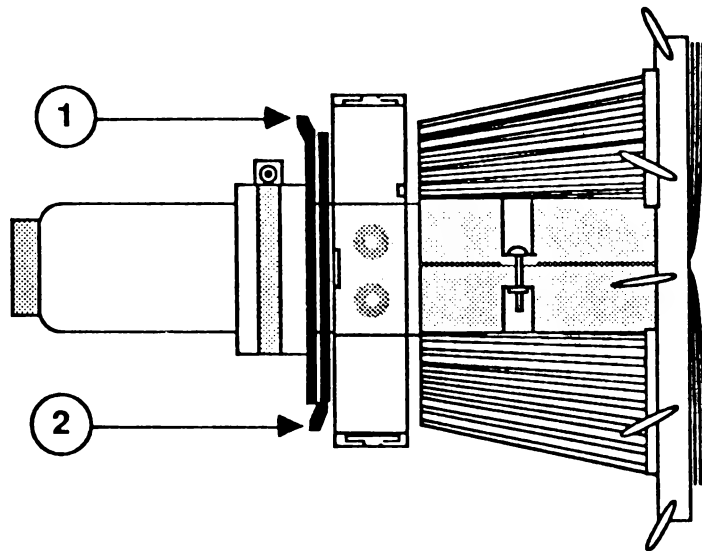

FIGURE 5
1. If using the Apple II Peripherals Diskette, select "Test #1" (Dot Pattern) from the menu. If using the ROM card, select Video Pattern (V).
2. Locate the two front and rear ring magnets on the rear part of the yoke (see Figure 5).
3. The ring that is closest to the rear of the yoke (see Figure 5, #2) is the coarse adjustment. Rotate this ring and observe the effect it has on the centering of the image. Position it so that the image is as close to center as possible.
4. Now rotate the front ring (see Figure 5, #3). This is the fine adjustment. Rotate it until the image is centered on the cross lines you put on the screen. It might be necessary to hold the rear ring steady as you move the front one.